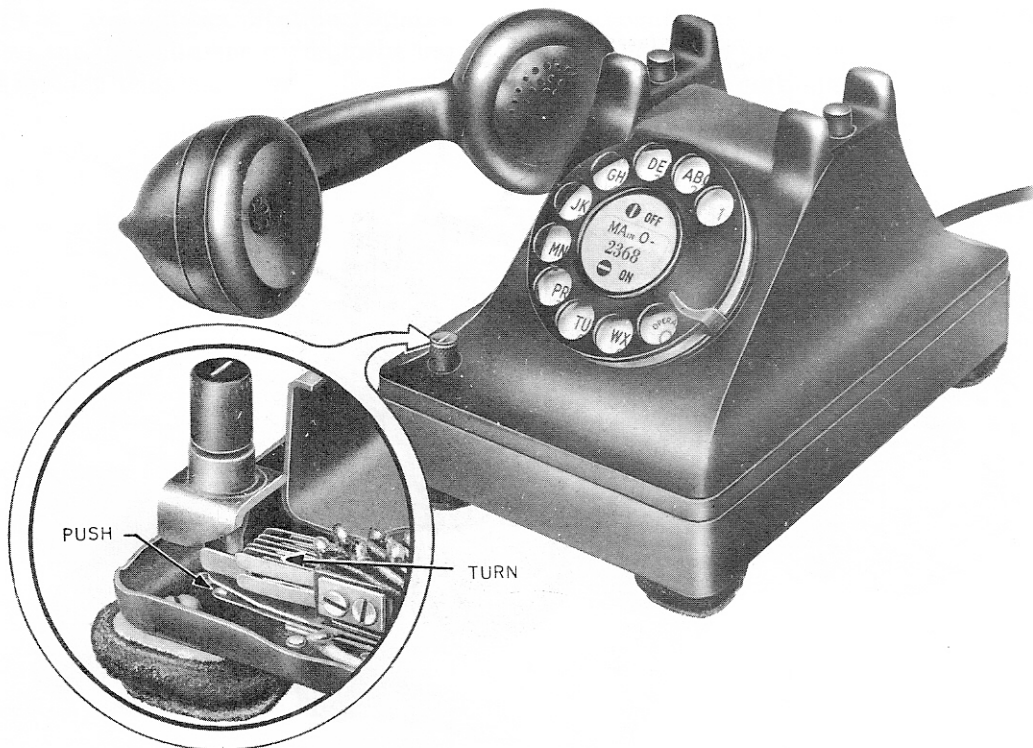

Fig. 2 — 401-type Set
2.02 The turn-push-button key on the 410 type (Fig. 2) is used to provide line transfer and cutoff. Crosstalk reduction features incorporated in the 410-type set include twisted conductors in mounting cord, shield around induction coil, and additional lead on capacitor.